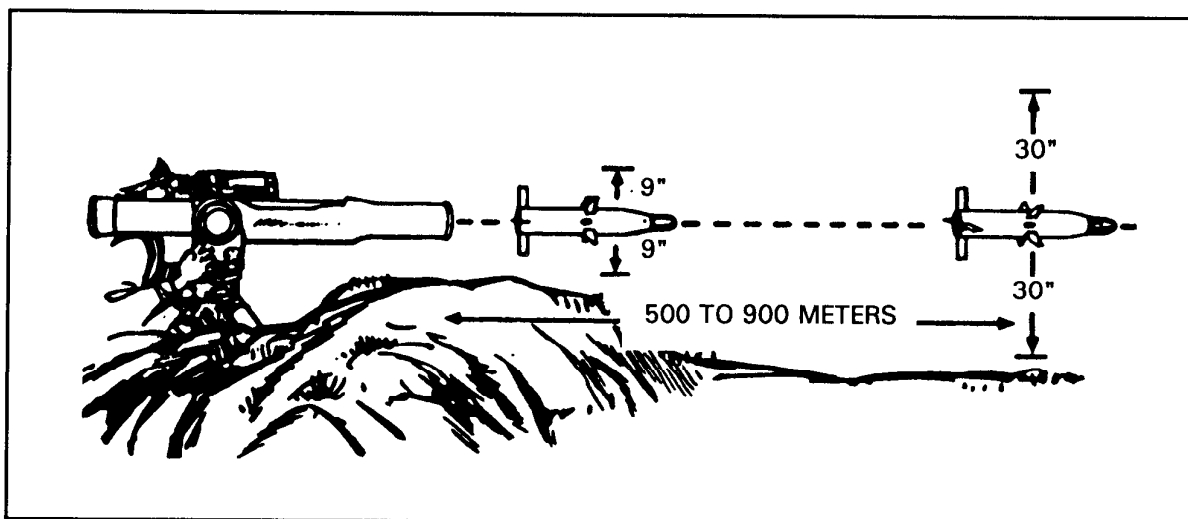

Figure 2-3. Clearance requirements.
f. **Clearance Requirements.** The TOW muzzle must have at least nine inches of clearance at the end of the launch tube so the wings and control surfaces of the missile will not be damaged when they extend after clearing the launch tube. The muzzle of the launch tube must extend beyond any enclosure, window sill, or aperture, and at least 30 inches of clearance must be between the line of sight and any obstruction from 500 to 900 meters downrange. A 30-inch line-of-sight clearance ensures a high probability the missile will not strike the ground on the way to the target (Figure 2-3, page 2-10).